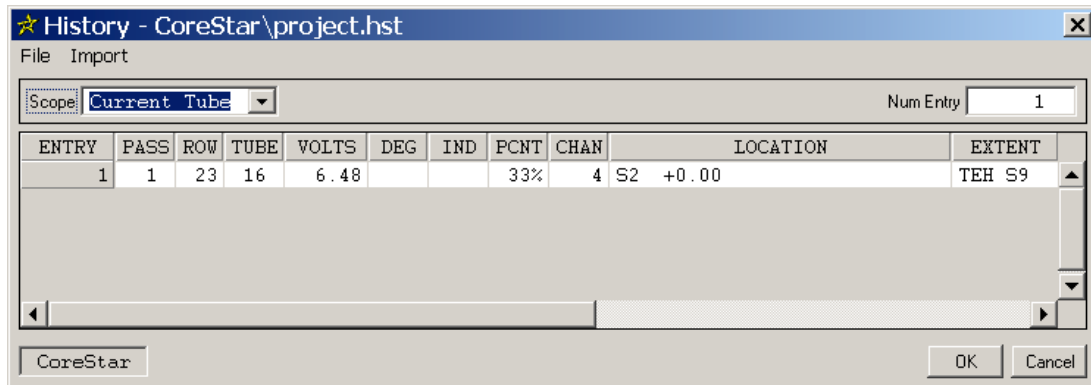

Figure 1-32. History Dialog
STEP 16: Click any **File** button until **77** appears. When this data file loaded, the **History** dialog should have appeared as shown in Figure 1-32. If the location is accurate in the **History** dialog and the landmarks *hit*, you can double-click the entry and the software will place the cursor at the historical location.